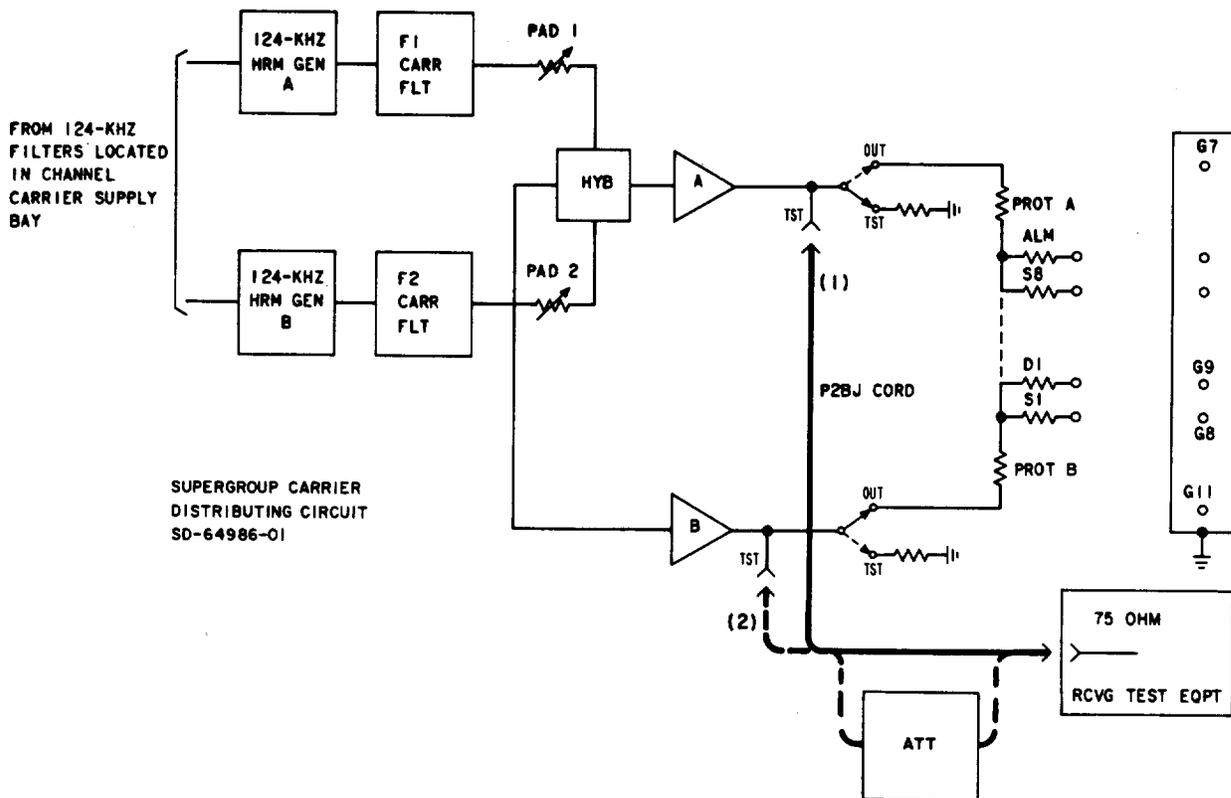

Fig. 2—Measurement of Amplifier Output Power
- 2 Measure and record the supergroup carrier signal power at the TST jack on the front of supergroup carrier amplifier A [patch (1), Fig. 2].
9 Remove patch (1), Fig. 2.
10 Measure and record the supergroup carrier signal power at the TST jack on the front of supergroup carrier amplifier B [patch (2), Fig. 2].
16 Remove patch (2), Fig. 2.
| 13   | Remove patch (1) or (2), Fig. 2.  |
| 23          | Remove patch (1) or (2), Fig. 2.   |